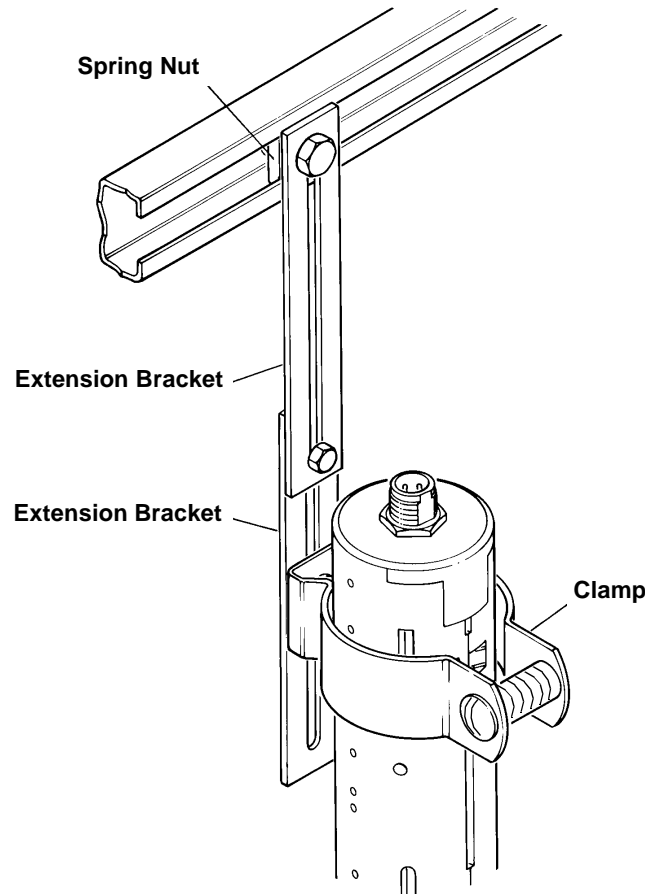

Figure 4. Mounting the Sensor using Two Extension Brackets.
3. Attach the extender bracket to the support bar in the dispenser pan using the spring nut. If you need to mount the sensor lower, add on the additional extension bracket as shown in Figure 4.